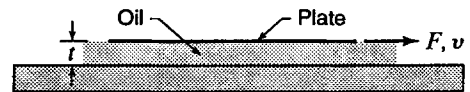

Figure X2.11.4
2.11.5 Refer to Fig. X2.11.4. A flat plate 2 ft × 3 ft slides on oil ($\mu = 0.024 \text{ lb}\cdot\text{sec}/\text{ft}^2$) over a large plane surface. What force F is required to drag the plate at a velocity v of 4 fps, if the thickness t of the separating oil film is 0.025 in?